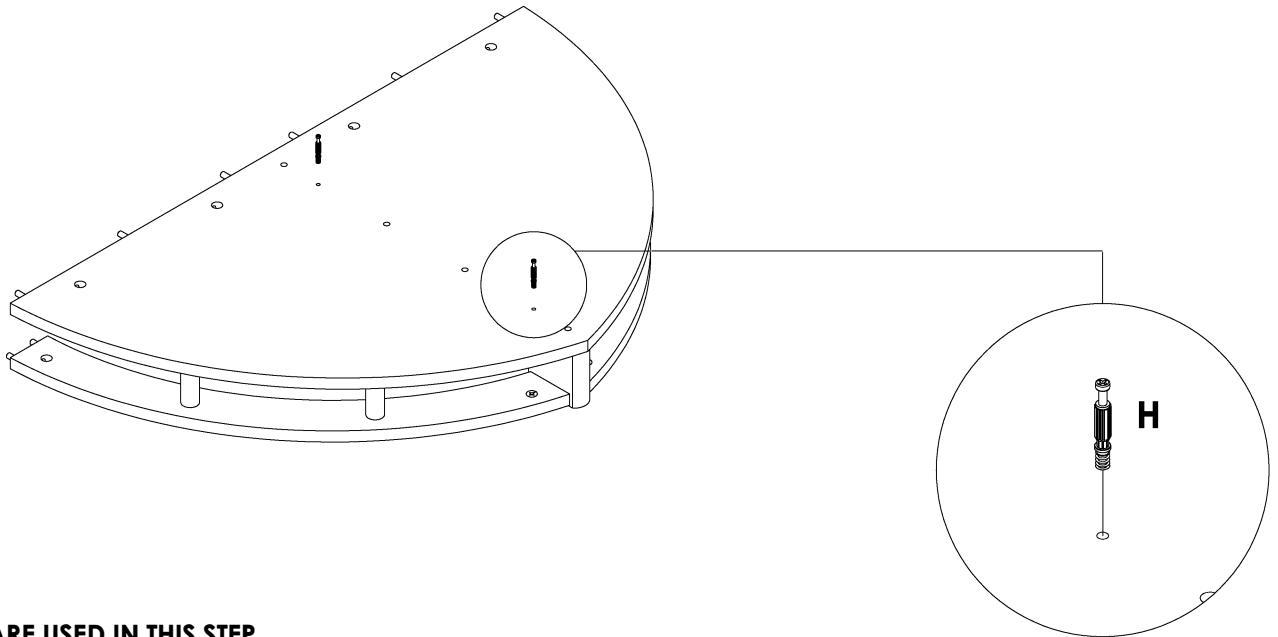

Figure 6
1. Attach **Connecting Bolts (H)** into specified Ø5MM holes on another side of **Top Panel** by using a Crosshead Screw Driver as shown in **Figure 6**.